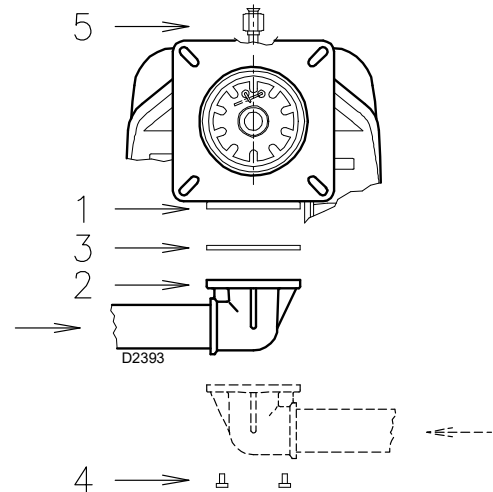

Fig. 19
- The gas train can enter the burner from the right or left side, depending on which is the most convenient, see Fig. 19.
- The gas train must be connected to the gas attachment 1)(Fig. 19) with the flange 2), the gasket 3) and the screws 4) supplied with the burner.
- The pilot gas train must be be connected to the gas attachment 5)(Fig. 19) and can enter the burner from the right or left side.